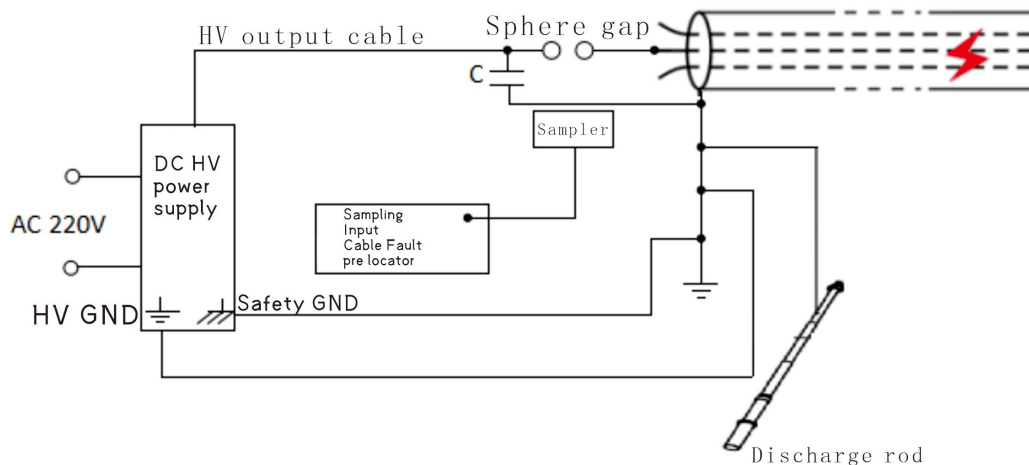

Fig 5-4
(2) Flash-over method (universal method): mainly used to test high-resistance faults of power cable leakage. The reflected signal is received by a special sampler and transmitted to the cable fault tester. The cable fault tester processes the reflected signal and presents a waveform diagram. The rough measurement of the fault distance of the tested cable is judged by analyzing the reflected waveform. Field wiring is shown in Figure 5-4.